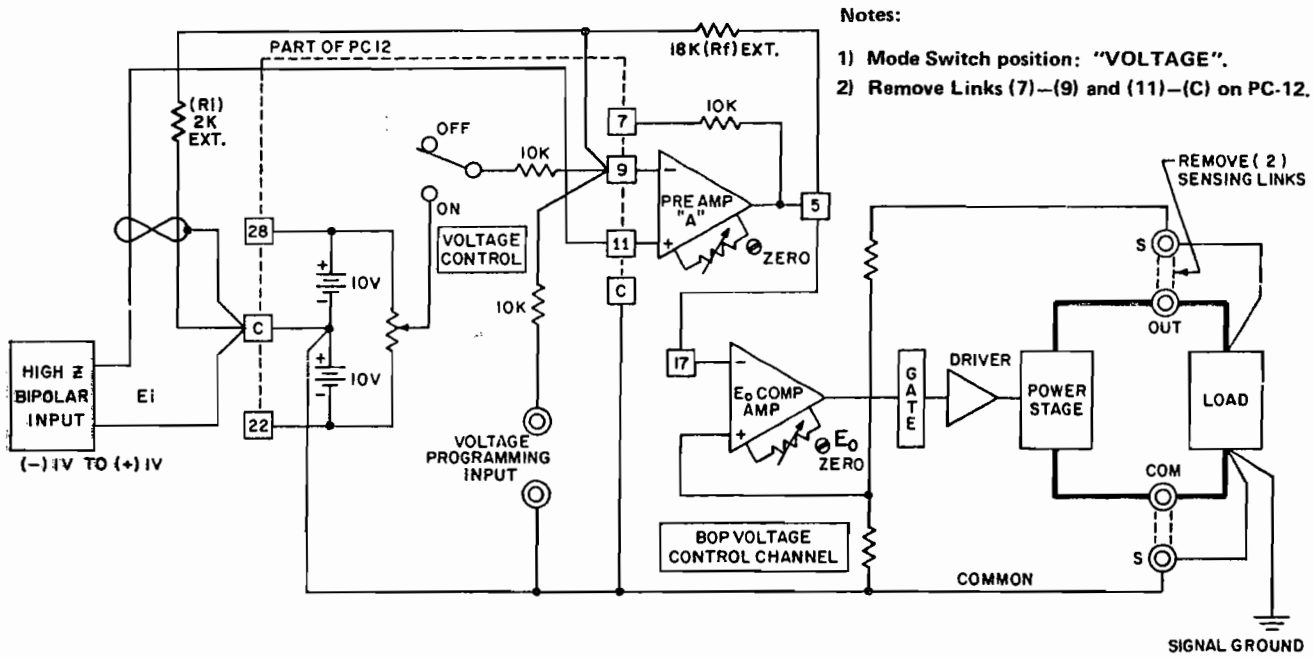

FIG. 3-7 BOP D-C OUTPUT VOLTAGE CONTROL WITH A HIGH IMPEDANCE. (\pm) 1V SIGNAL SOURCE.
- 3-20 If, for example, the BOP d-c output is to be controlled by means of a bipolar, 1 volt, high impedance source, it can be connected to the BOP as shown in FIG. 3-7.
- 3-21 As seen in FIG. 3-7, the original input feedback components of PREAMP "A" have been bypassed and are replaced by external resistors (small, metal film or wire-wound type resistors may be used and connected directly to the REAR PROGRAMMING CONNECTOR terminals as shown). PREAMP "A" is used in the non-inverting configuration. Its output voltage (the necessary BOP control voltage) is given by: